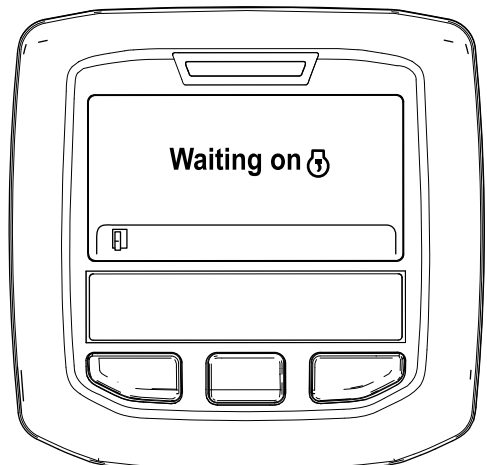

Figure 35
- B. The "Waiting on [engine icon]" message displays (Figure 35).